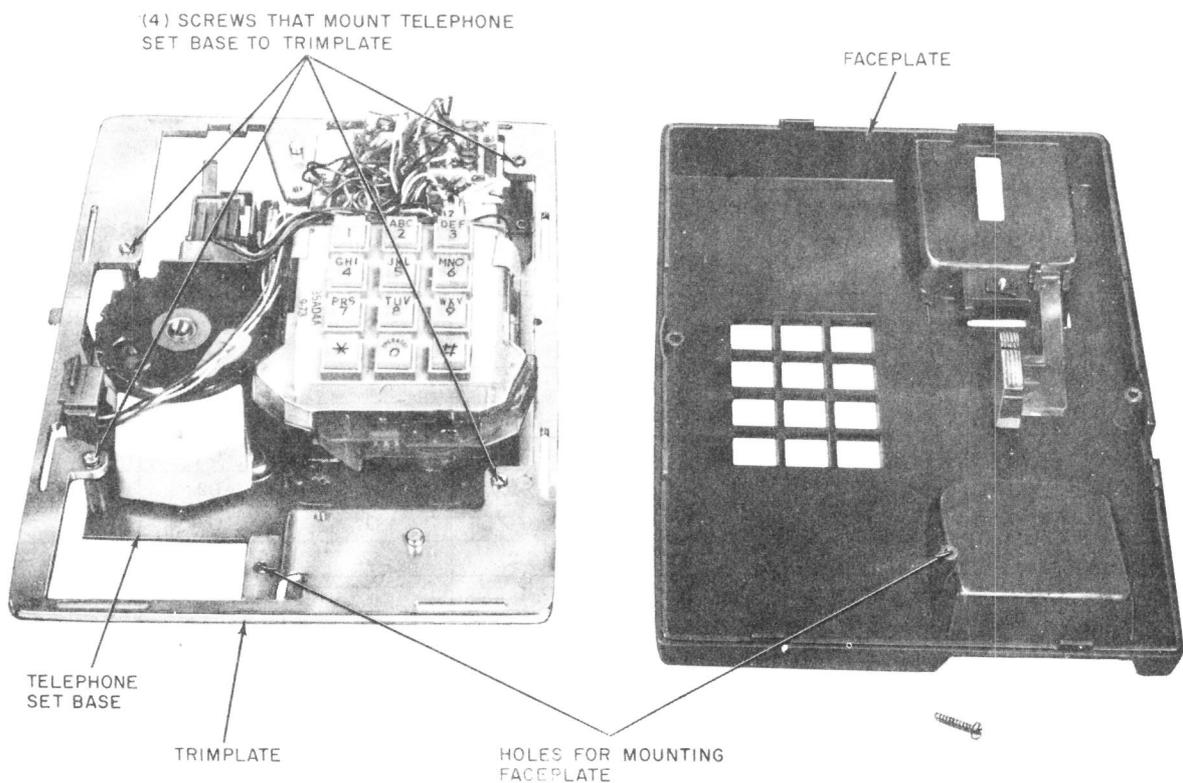

Fig. 8—2900A Telephone Set, Less Housing With Faceplate Removed
- Remove telephone set base by removing four machine screws shown in Fig. 8.
- (3) Reassembly trimplate to faceplate.
- (4) Reassemble housing to trimplate.